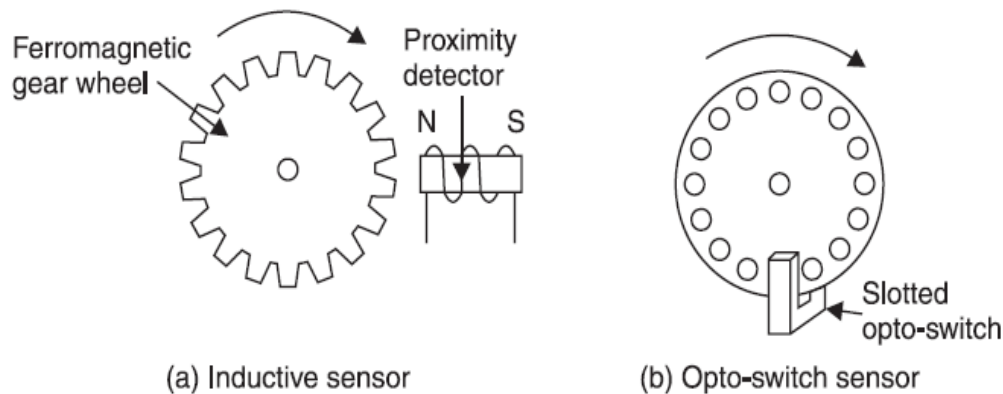

Fig. 2.3 Displacement sensors using counting
3. One of the simplest methods of speed measurement is to use a counting technique illustrated in Fig. 2.3. It uses a fixed inductive sensor to produce a pulse each time it is